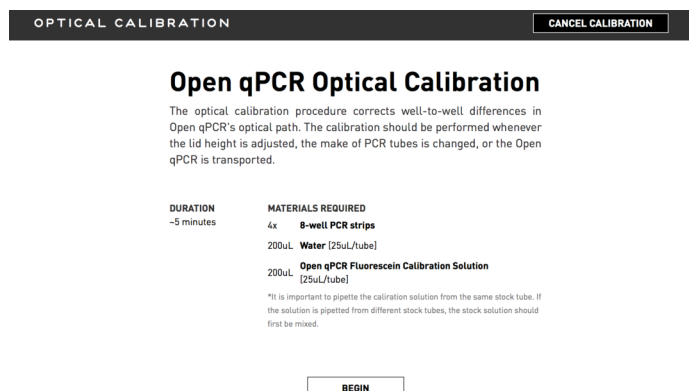

Figure 3.3
3. The calibration time and materials required will be shown on the next screen (Figure 3.3). Select **Begin**.